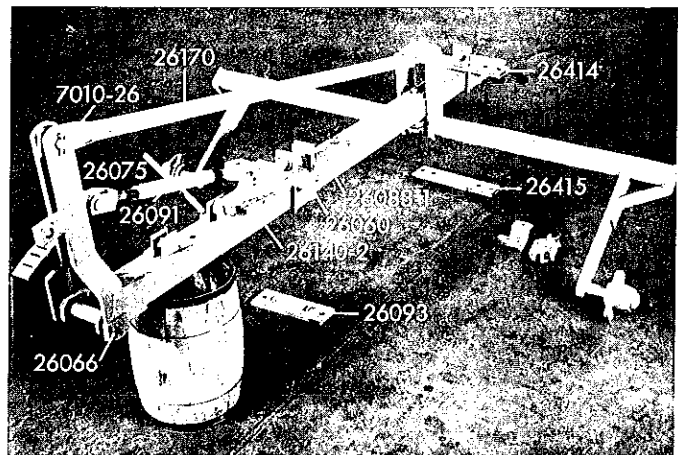

FIGURE 2
**FIGURE 2**—Attach the front slide bracket (26060) to the front adjusting screw bracket (26083-1) and then use  $\frac{3}{4}$  x  $5\frac{1}{2}$ " bolts to assemble front gang beams to center beam. Connect 26140-2 cylinder anchor to center beam with 7010-26 clevis pin. Note that long leg of cylinder anchor rests on center beam.
**FIGURE 8**—Remove 26091 screw jack from temporary position (Figure 2) and assemble in permanent location to 26022-1 tongue and 26075 lever arm fittings with 7010-26 pins and 006320 cotters. This jack is used to regulate the hitch to fit the tractor drawbar height.